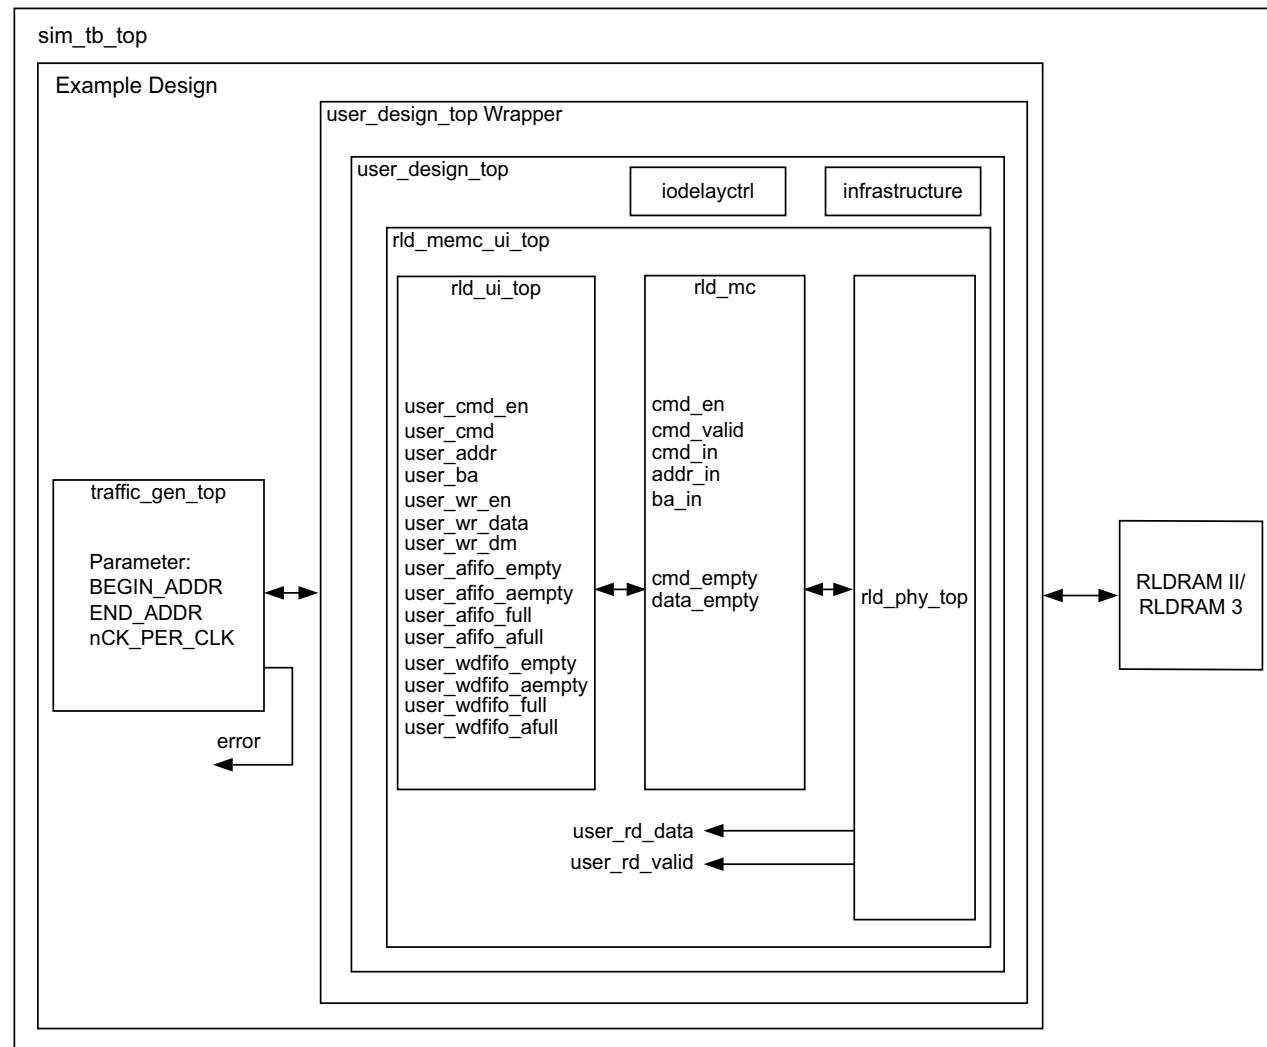

Figure 3-35: Synthesizable Example Design Block Diagram
The MIG tool provides a synthesizable test bench to generate various traffic data patterns to the Memory Controller (MC). This test bench consists of a rld_memc_ui_top wrapper, a traffic_generator that generates traffic patterns through the user interface to a rld_ui_top core, and an infrastructure core that provides clock resources to the rld_memc_ui_top core. A block diagram of the example design test bench is shown in Figure 3-35.